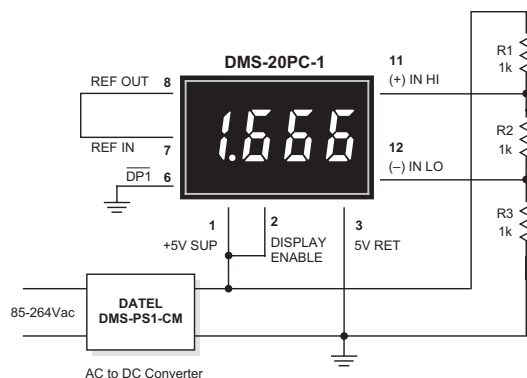

Figure 3. Differential Input Configuration
- 2. Differential Input Configurations:** Differential measurements can be made with all DMS-20PC meters. Figure 3, though not a practical real-world application, uses a voltage divider to demonstrate the concept of a differential input signal. Be careful not to exceed the  $\pm 2V$  common mode voltage limitation for 5V-powered meters.